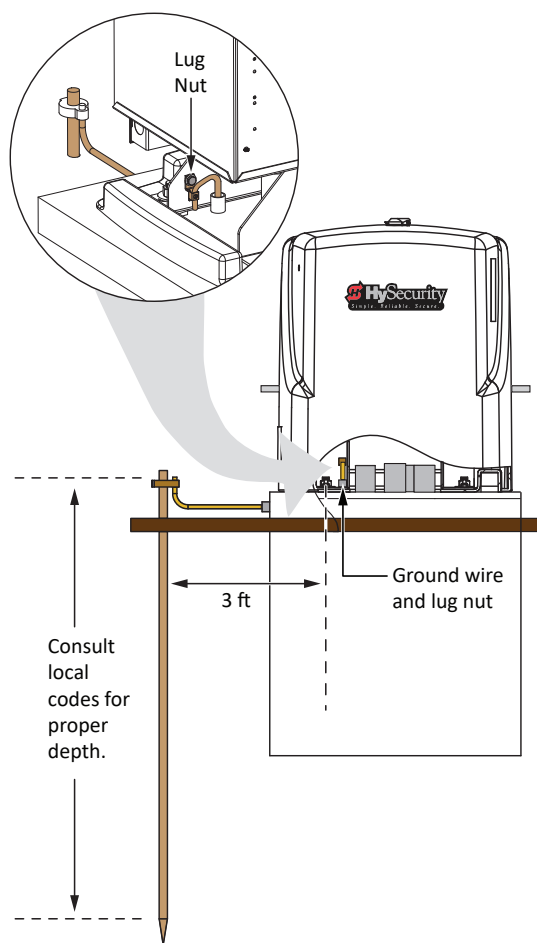

Figure 22. Install Earth Ground
Turn off AC power at the source (circuit breaker panel) before accessing the wires in the SlideSmart junction box. Follow facility Lock Out/Tag Out procedures. Make sure both the DC and AC power switches, on the side of the SlideSmart control box are in the off position. See Figure 22.
Wiring of gate operators must conform to the NEC standards and comply with all local codes. If you plan to connect to 208/230VAC power, read the WARNING in Figure 22. The voltage selector switch on the AC Power board must be moved to the 230V position or damage to the operator will occur and void the Limited Warranty.
2. Access the input power wires and service outlet wires by removing the two Phillips-head screws that secure the high voltage junction box cover. See Figure 22.
3. Wire nut or crimp bond the power supply wires to the black and white lead wires coming from the AC power switch (no label). See Figure 22.
2. Remove the High Voltage Protection cover by unscrewing the two Phillips-head screws that secure it. See Figure 22.
4. Access the input power wires by removing the two Phillips-head screws that secure the High Voltage Junction Box Cover. See Figure 22.